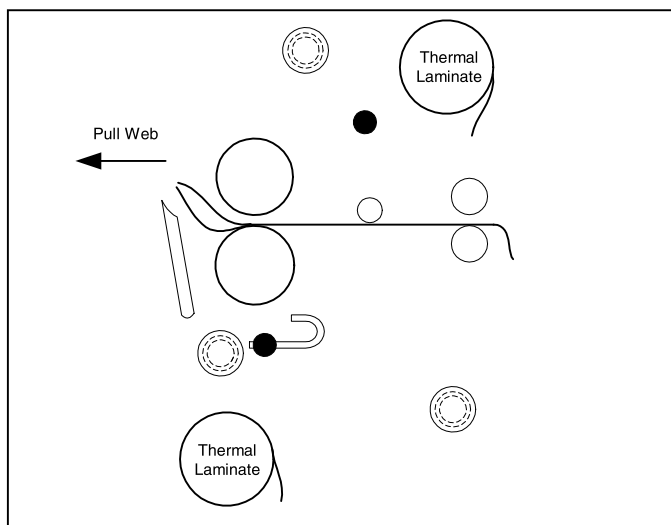

Fig. 36
6. Carefully grab hold of the web (top and bottom film), from the front operating position and pull towards you (Figure 36).